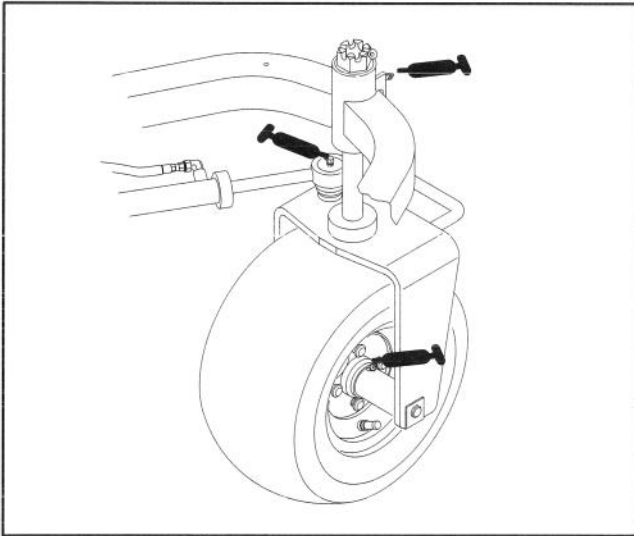
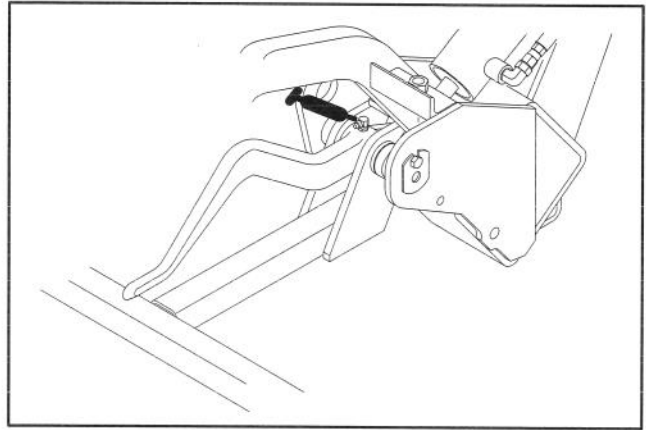
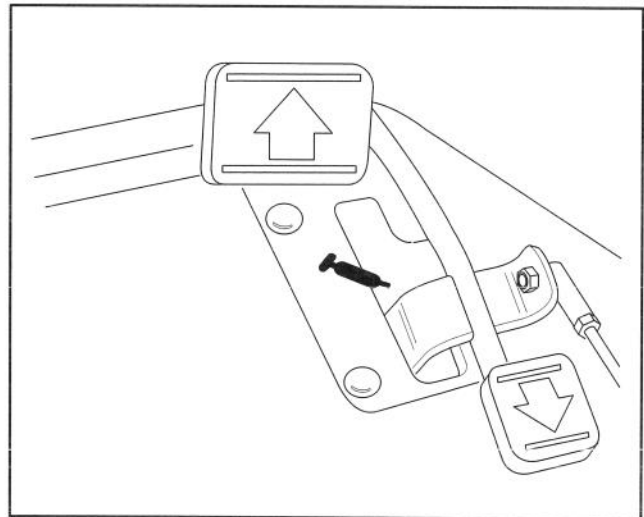

Figure 28
Figure 29
Figure 30
The traction unit bearings and bushings that must be lubricated are: Rear wheel hub (1), Castor bearing (1), Steering cylinder (2) (Fig. 28), Lift arms (3) (Fig. 29), Traction pedal pivot (1) (Fig. 30).